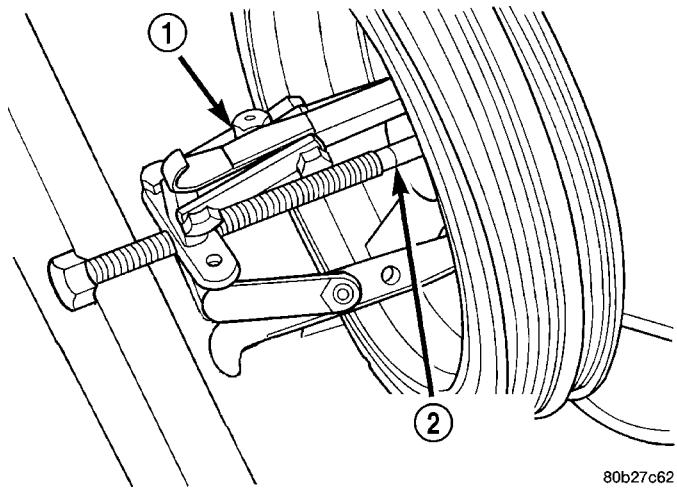

Fig. 96 CRANKSHAFT DAMPER - REMOVAL
(6) Use Special Tool 1023 puller, and insert C-4685-C2, remove crankshaft damper (Fig. 96).